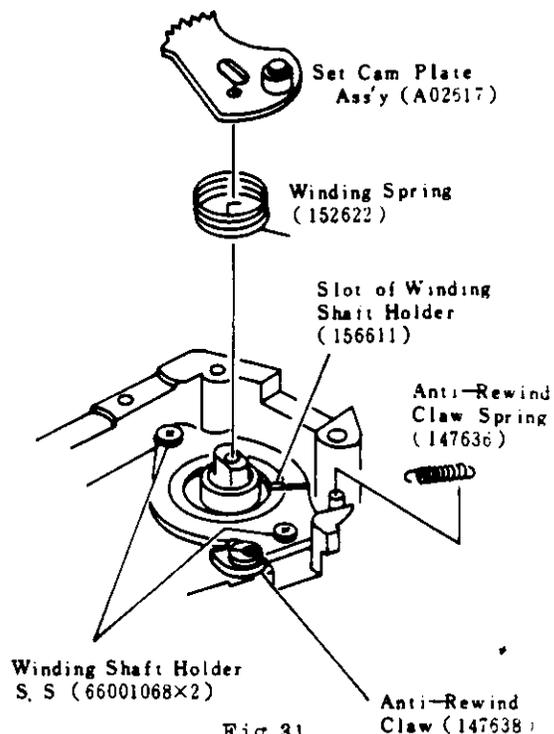

Fig 31
- i) Install Set Cam Plate Ass'y (A02617) as shown in (Fig 31) and push it in.